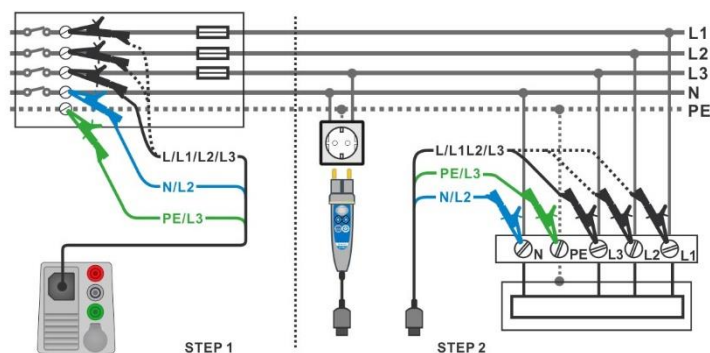

Figure 7.107: AUTO TT measurement
- Connect 3-wire test lead or Plug commander to the object under test, see **Figure 7.107**.